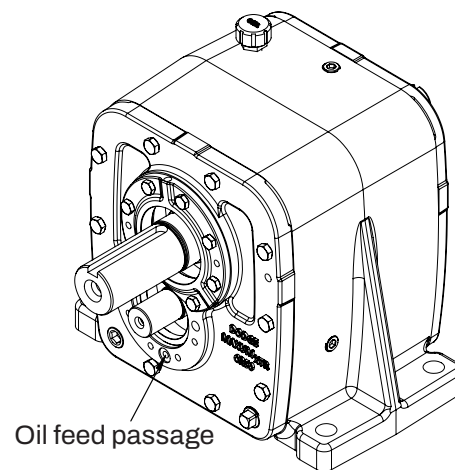

Figure 6 - Oil Feed Passage
15. For final assembly, remove backstop cover (2) and press dowel pin (8) into backstop carrier (1). Install O-ring (12) over Figure 6. Apply thin bead of Loctite 515 or equivalent at carrier-reducer joint and cover-carrier joint. Apply a bead of Loctite 515 or equivalent to fully circle the fastener holes. Install all M10 x 1.50 cap screw (7) fasteners with medium-strength thread locker and tighten to 27 lb-ft torque.
17. Coat pipe plug (6) with a thread sealant and install in cover.